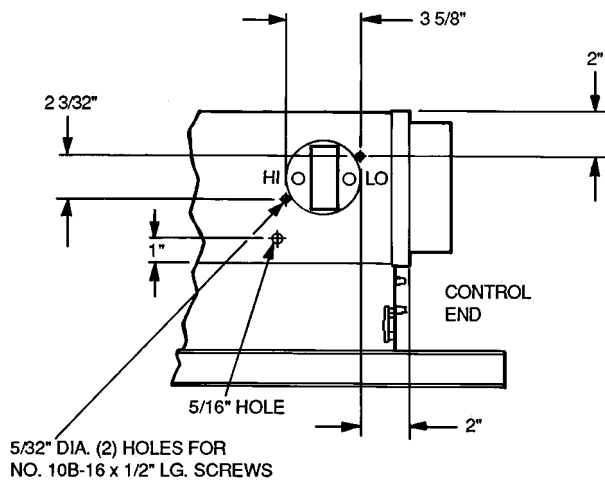

Fig. 3 — Holes for Mounting Pressure Switch
2. Refer to Fig. 3 and drill two 5/32-in. holes in the Moduline® terminal plenum side.